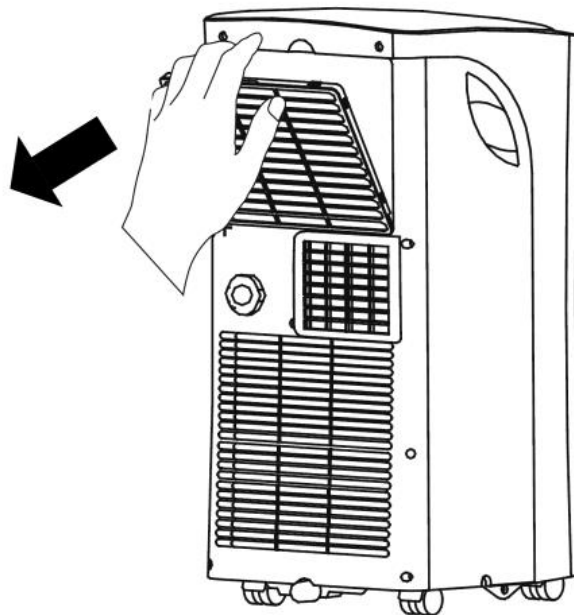

Fig. 9
2. Press the catch at the top the filter cover and lift off the cover (fig. 9).